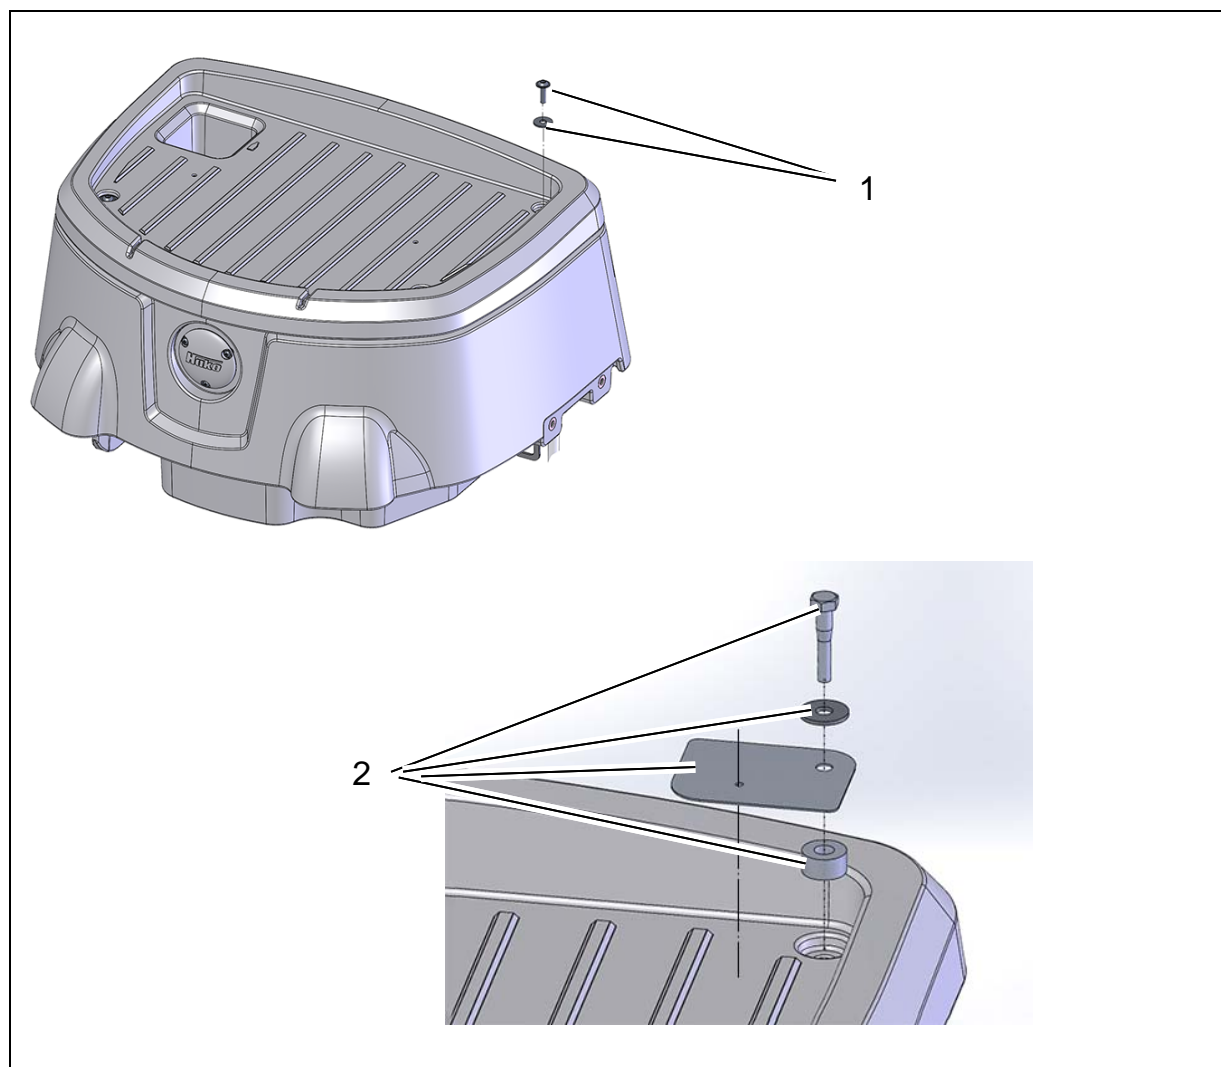

Fig. 2
1. Remove fastening screw and washer of cover at flashlight installation location (Fig. 2/1)
2. Fit drilling template with screw, washer and bushing (Fig. 2/2)